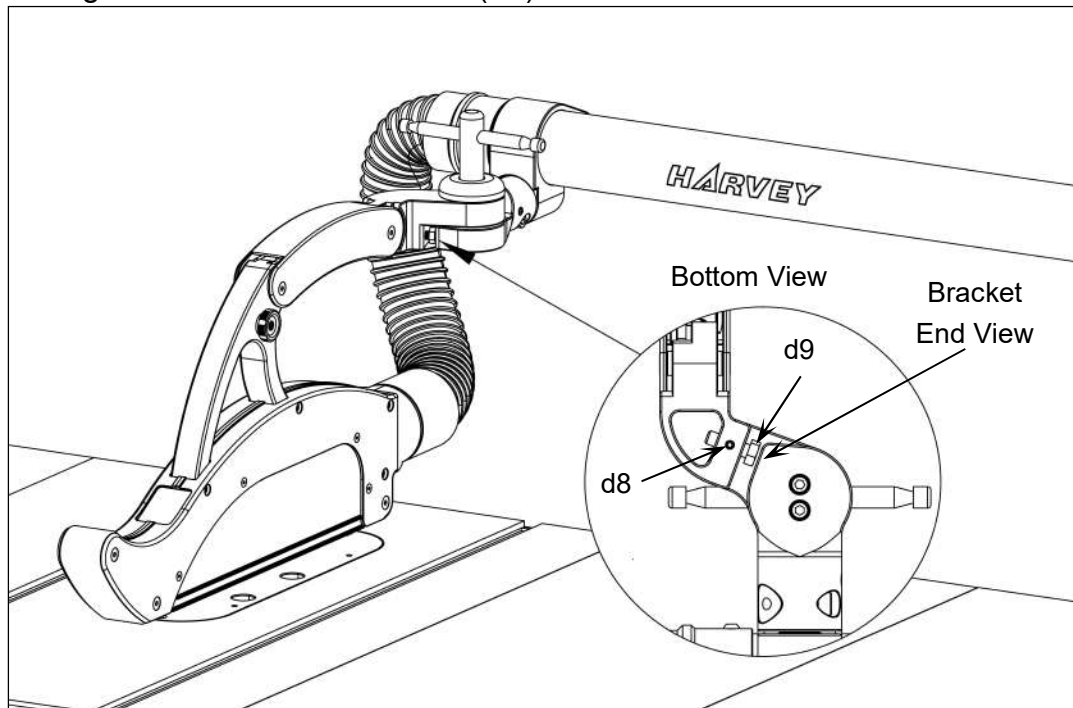

Fig. 19
- Loosen the set screw M5 × 8 (**d8**) as shown in **Fig. 19**.
- Turn out the external hex bolt M8 × 25 (**d9**) as shown in **Fig. 19** until the bolt head contacts the end face of the bracket.